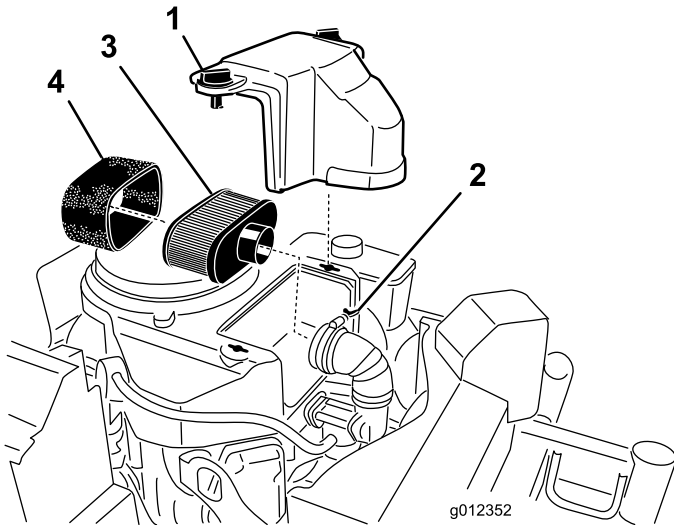

Figure 42
3. Clean around the air cleaner to prevent dirt from getting into the engine and causing damage (Figure 42).
4. Unscrew the cover knobs and remove the air-cleaner cover (Figure 42).
5. Unscrew the hose clamp and remove the air-cleaner assembly (Figure 42).
6. Carefully pull the foam element off the paper element (Figure 42).
2. Replace the paper element if it is damaged (Figure 42).
1. Carefully slide the foam element onto the paper air-cleaner element (Figure 42).
2. Place the air-cleaner assembly onto the air-cleaner base or hose and secure it (Figure 42).
3. Place the air-cleaner cover into position and tighten the cover knob (Figure 42).